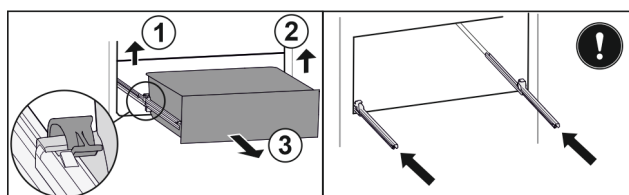

Fig. 219
- Lift left clamp and simultaneously pull drawer forwards on the left. Fig. 219 (1)
- ▶ Lift right clamp and simultaneously pull drawer forwards on the right. *Fig. 219 (2)*
- ▶ Remove drawer to the front. *Fig. 219 (3)*